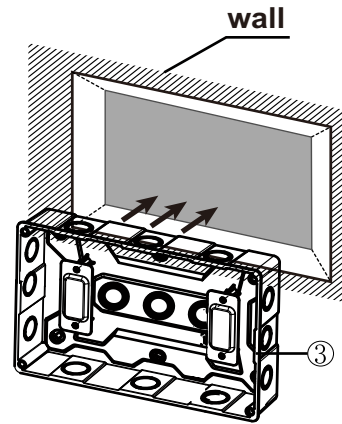

Fig. 3 — Installing the Mounting Box
5. Install the Mounting Box (3) into the 10-1/4" by 6-5/8" opening in drywall or mounting surface making sure the box is flush with the wall surface. See Figure 3. Use the 6 short screws to fasten the plastic mounting box. Use plastic washers as needed for alignment and to prevent damage to components.